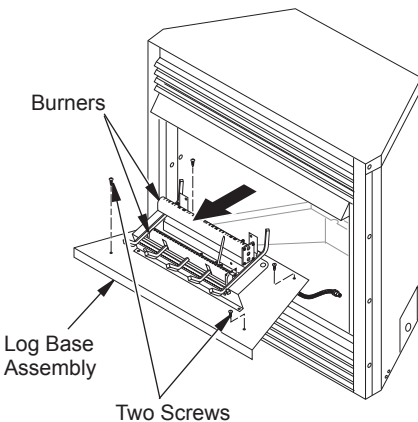

Figure 2 - Removing Log Base Assembly from Fireplace
- Remove logs. Remove two screws that attach log base assembly to fireplace. Carefully lift log base assembly and remove from fireplace (see Figure 2).
Secure log base assembly with the two screws removed in step 2 (see Figure 2, page 2).